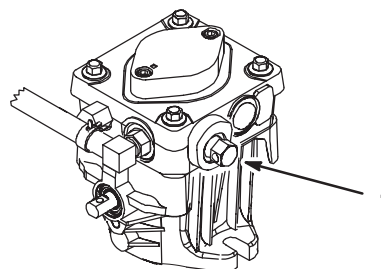

Figure 21
- Rotate the by-pass valves counterclockwise 1 turn to push. This allows hydraulic fluid to by-pass the pump enabling the wheels to turn (Fig. 21).
Turn the by-pass valves in to operate (Fig. 21).